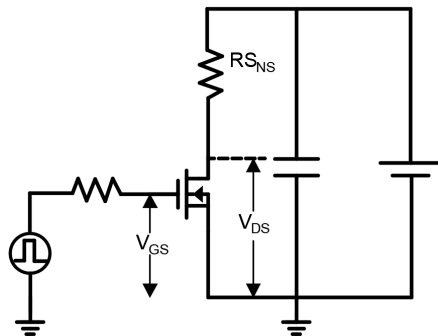

Figure 17. Dynamic $R_{DS(on)eff}$ Test Circuit
C. Dynamic on-resistance; see Figure 17 and 18 for test circuit and configurations